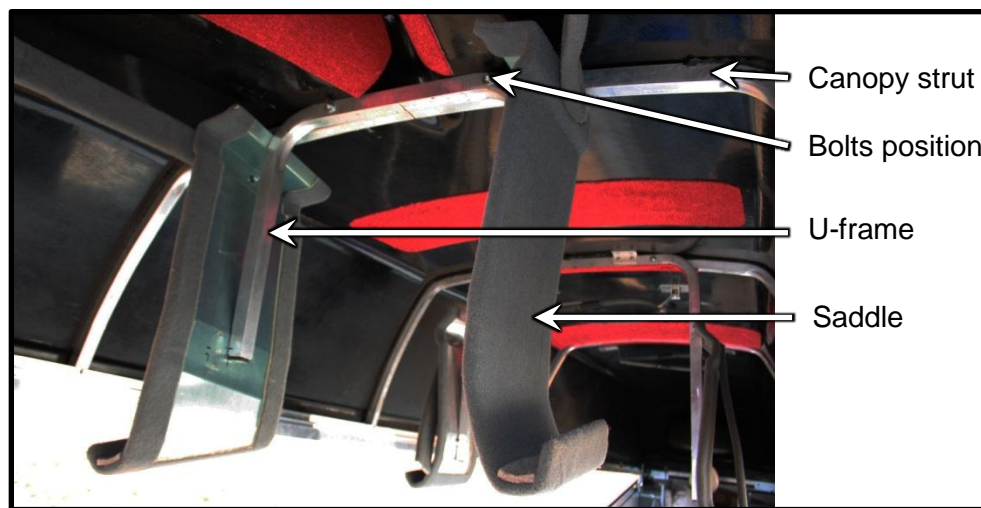

Figure 3
- 2.4.2. Drill two holes in the strut and U-frame and bolt the assembly to the canopy strut's rear face. (Figure 3)